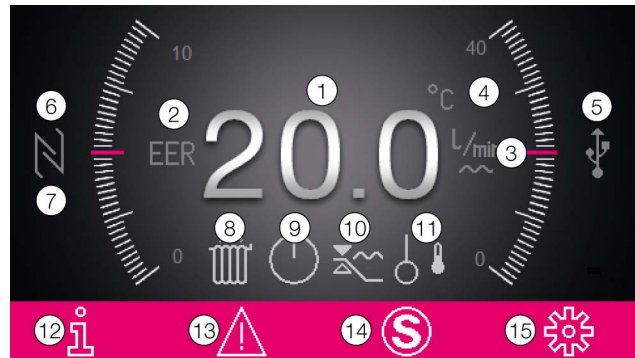

Fig. 41: Layout of the start screen
- Shut off the water flow to the customer application completely using a customer-supplied shut-off valve in the pipeline or in the end application. On the chiller display, the current volumetric flow passing through the bypass is shown to the right of the temperature reading (fig. 41, item 3).